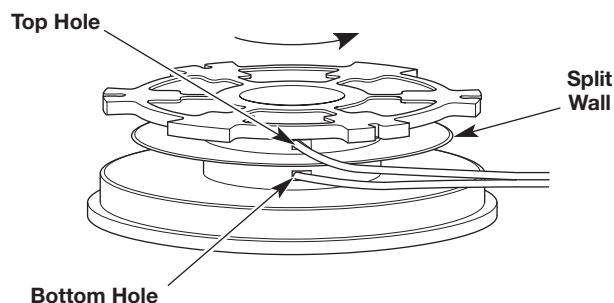

Fig. 15
2. Using one split end, insert one line into the top hole and the other line into the bottom hole in the inner reel (Fig. 15).